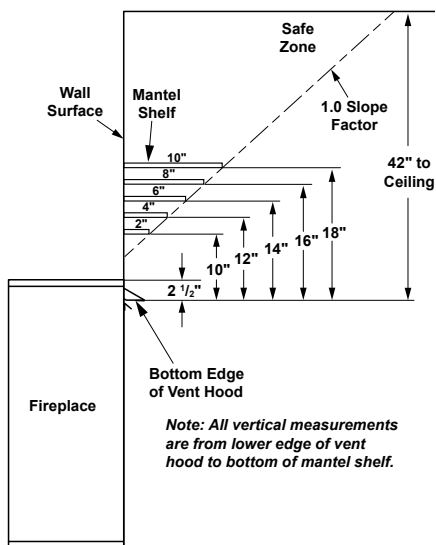
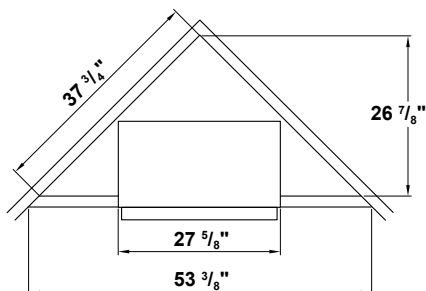

Figure 7 - Fireplace Clearances
Figure 9 - Rough Opening for Corner Installation
1. Frame in rough opening. Use dimensions shown in Figure 7 for the rough opening. If installing in a corner, use dimensions shown in Figure 9, for the rough opening. The height is 23 $\frac{1}{4}$ ", which is the same as the wall opening above.